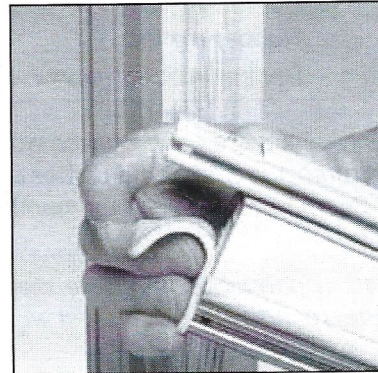

Figure 8
- Carefully remove the jamb carrier gasket from the head jamb end of the jamb carrier. Slide both balance tubes up 3"(76) and remove the existing S-hooks. See figure 8.
6. Install the top gasket back onto the jamb carrier. See figure 8.